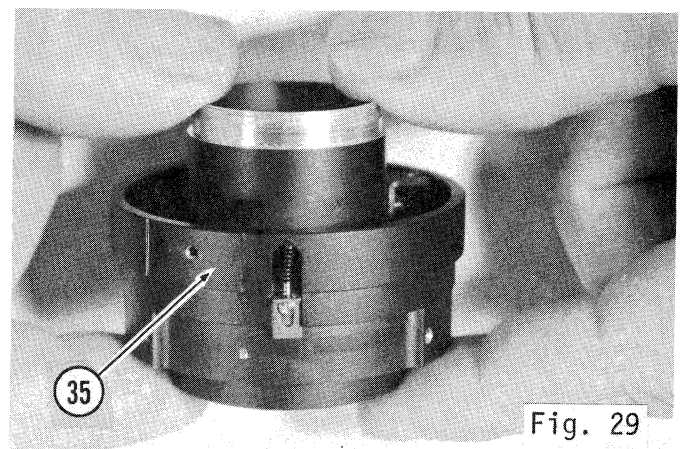

Fig. 29
4.2.4 Holding parts tightly together (as in Fig. 29), invert and place on workbench with Prime Lens Barrel down.